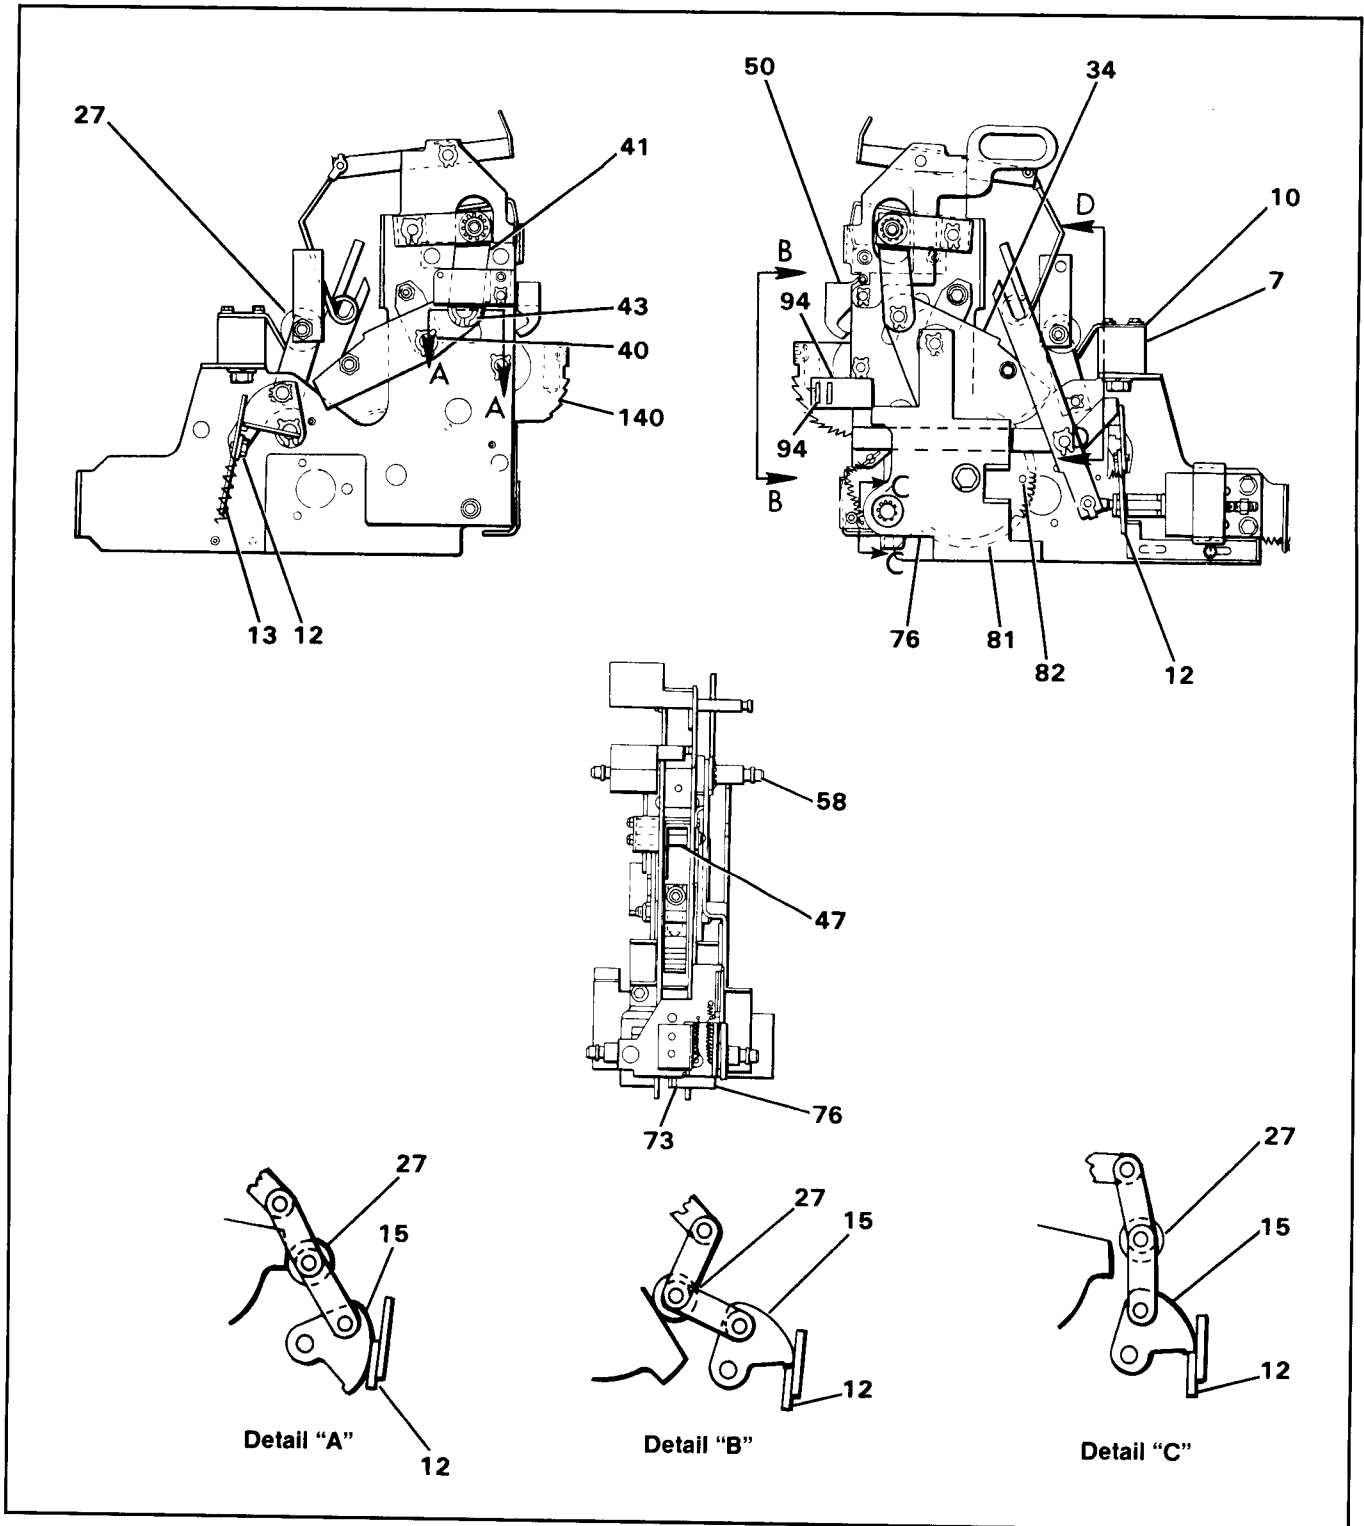

Figure 1. Circuit Breaker Outline
The breaker has a center-mounted frame so many of the latches and links are arranged in pairs. For descriptive purposes, they will be referred to as single items. Refer to Figure 1, page 6, and Table 1, page 4. Detail (A) shows the position of the trip latch
The mechanism of the electrically operated circuit breaker is the same as the manually charged circuit breaker, except that the manual charging handle is replaced by a motor and gear system. Refer to Figure 1, Table 2. Power available to the control circuit will start the automatic charging cycle. The motor gear box pinion rotates gear (81) counterclockwise. Cam follower (82) engages an arm of wind and close cam (34), which rotates the cams in the same manner as for the manually charged circuit breaker. When the wind and close cam (34) reaches its charged position, the back of the cam engages switch lever (73), rotating the lever away from the switch operator. Gear switch lever (76) will still be holding the switch in the operate position and the motor will continue to run until the roll pins on the side of gear (81) lifts lever (76) clear. This releases the motor cut-off switch (MCO). When the MCO switch opens, the motor stops, and the closing coil circuit is set up through one side of the MCO switch.
SEE FIGURE 1.